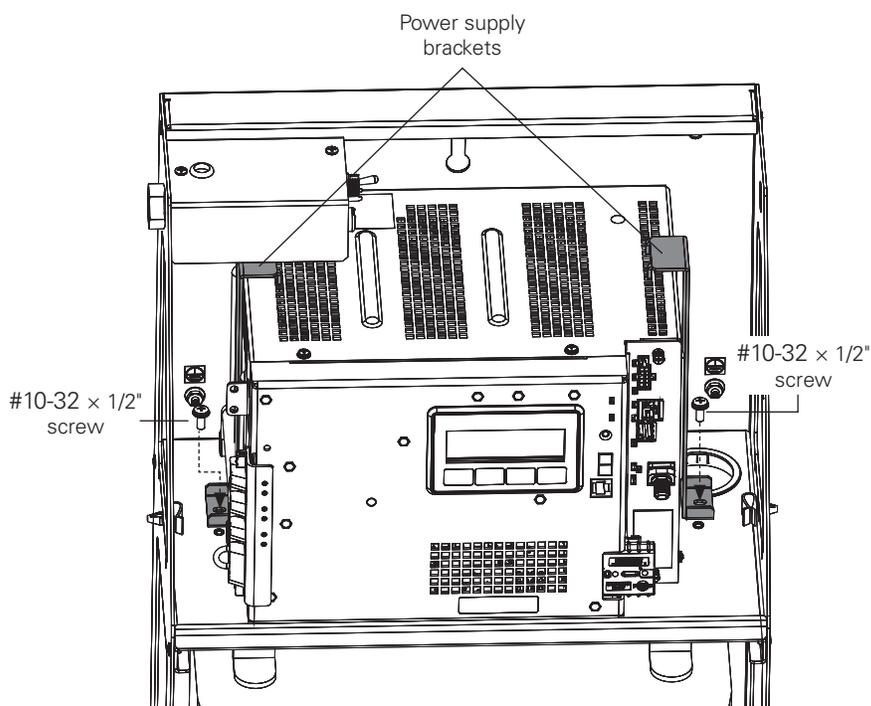

Fig. 9, Installing Power Supply Brackets
5. Install the XM3.1-HP™ power supply and place the brackets on either side (Fig. 9), securing them in place with supplied #10-32 × 1/2" screws.